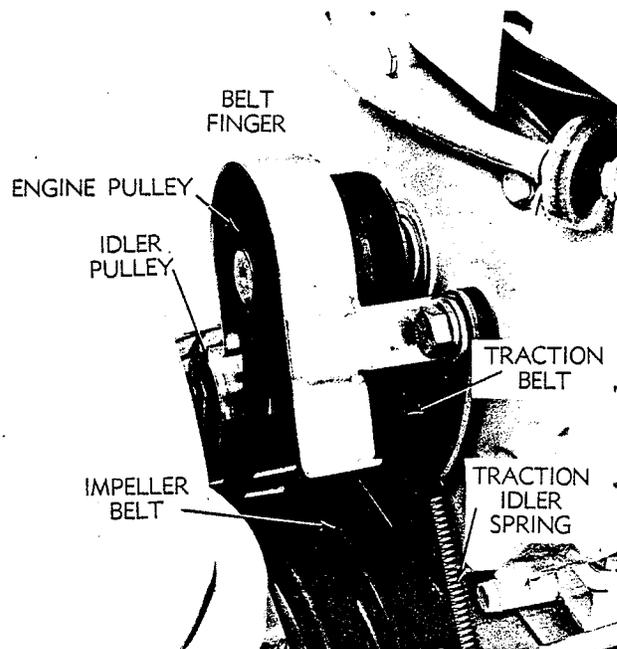

FIG. 10
- B. Remove spring from traction idler. (Fig. 10).